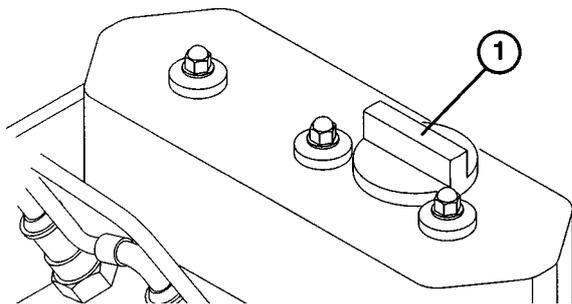

Figure 2
3. If the oil level is low, remove the oil fill cap (Fig. 2) and gradually add small quantities of oil, checking the level frequently, until the level reaches the FULL mark on the dipstick.